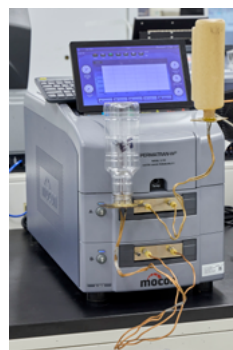

Figure 2. Samples are testing with ambient air.
- Prepare the package test samples per traditional methods described in OX-TRAN Model 2/22, 2/12 or PERMATRAN-W 3/34 Operator's Manual (Fig 2).
- Alternatively, prepare package sample with special cartridges and PackRack[®] (Fig 2.) if ambient test condition is desired. Call for details about PackRack and related package test cartridges.